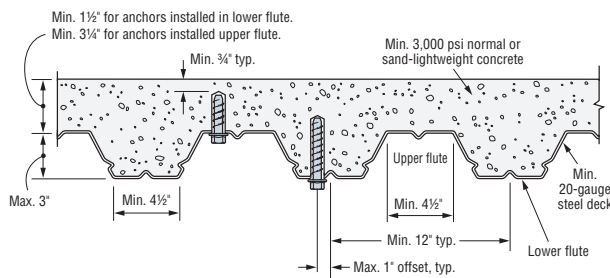

Figure 1. Installation of 3/8"- and 1/2"-Diameter Anchors in the Soffit of Concrete over Steel Deck
- For anchors installed in the soffit of sand-lightweight or normal-weight concrete over steel deck floor and roof assemblies, as shown in Figure 1 and Figure 2, calculation of the concrete breakout strength may be omitted.
- In accordance with ACI 318-14 Section 17.5.1.2(C) or ACI 318-11 Section D.6.1.2(C), the shear strength for anchors installed in the soffit of sand-lightweight or normal-weight concrete over steel deck floor and roof assemblies *V_{sa,deck}* and *V_{sa,deck,eq}* shall be substituted for *V_{sa}*.